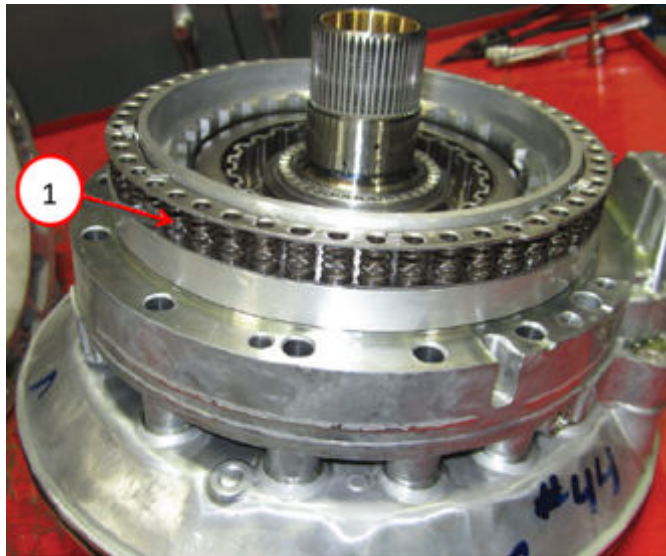

Fig. 37
57. Install the new input shaft O-ring Fig. 37.